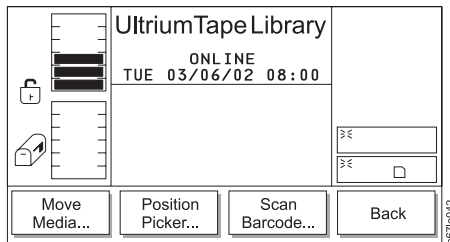

Figure 4-63. Move Submenu
2. Press the button below the **Move** softkey. The Move Submenu displays (see Figure 4-63).
6. To return to the Move Submenu (see Figure 4-63 on page 4-38), press the button below the **OK** softkey. To return to the Main Menu press the button below the **OK** softkey, then press the button below the **Back** softkey until the Main Menu displays.